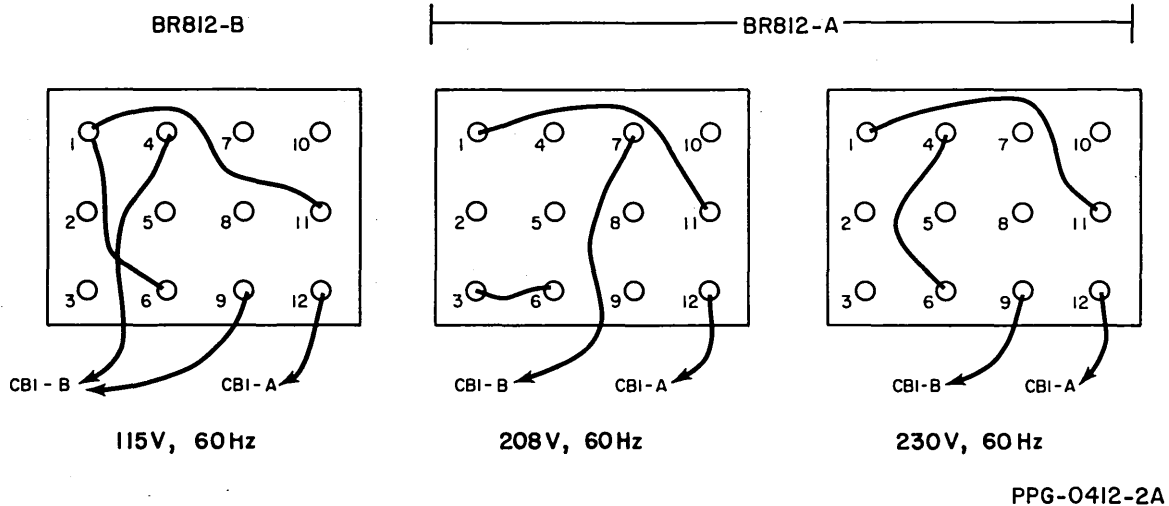

Figure 2-5.2 FDD Power Supply Programming Plug (J02)
6. The FDD must be strapped for the same voltage as the MMD. Refer back to figure 2-4.1 for MMD programming plug and figure 2-4.2 for MMD/FDD cabling diagrams with jumper location codes. Refer to figure 2-5.2 for FDD programming plug.